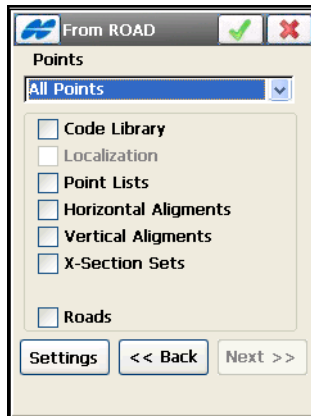
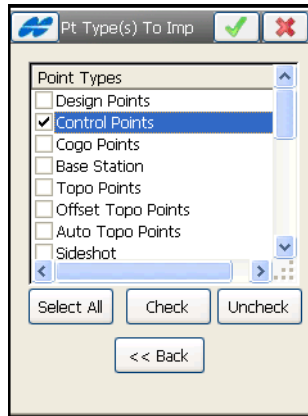
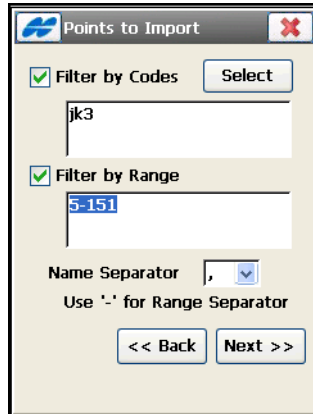

Figure 5-2. Import from Job
Figure 5-4. Select Point Type(s) to Import
Figure 5-5. Points to Import
2. In the **From <Job>** screen (Figure 5-2) select whether points are to be imported, and if necessary, filter the imported points either by type, by range and code, or by type, range, and code. Place appropriate check marks to import along with points *Code Library*, *Localization*, *Point Lists*, *Horizontal Alignments*, *Vertical Alignments*, *X-Section Sets*, or *Roads*.
4. If *By Type* or *By Type, Range and Code* is selected in the *Points* drop-down menu of the **From <Job>** screen (Figure 5-2), select the types of points to be imported on the **Point Type(s) to Import** screen (Figure 5-4).
5. If *By Range and Code* is selected in the *Points* drop-down list of the **From <Job>** screen (Figure 5-2 on page 5-2), on the **Points to Import** screen, select the codes and/or the range of points to be imported (Figure 5-5 on page 5-4).